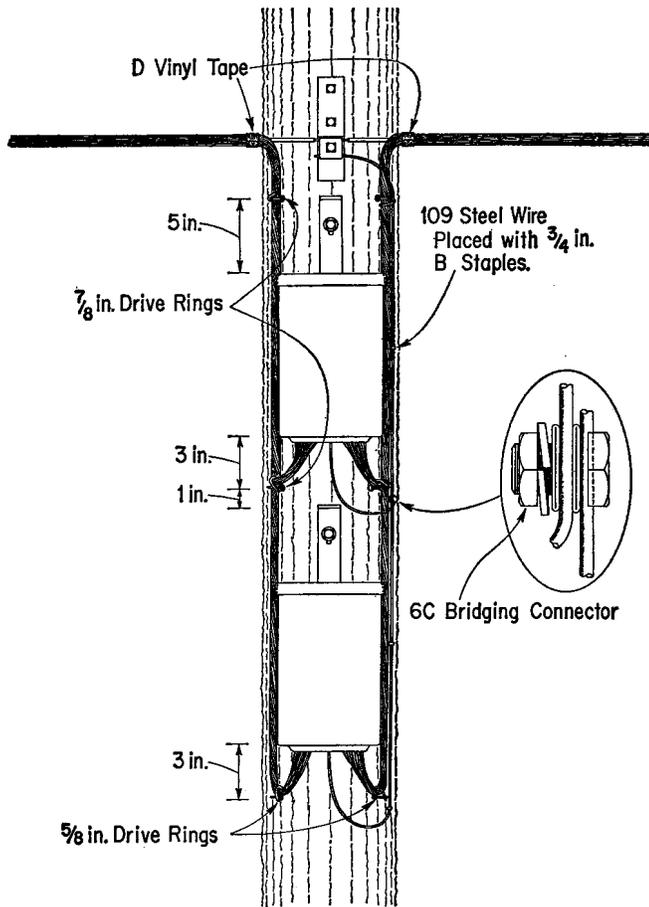

Fig. 7
3.03 A second coil case can be placed below the first using the same method of installation. The completed installation is shown in Fig. 7.